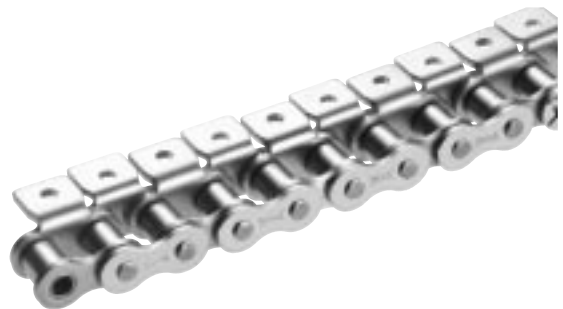
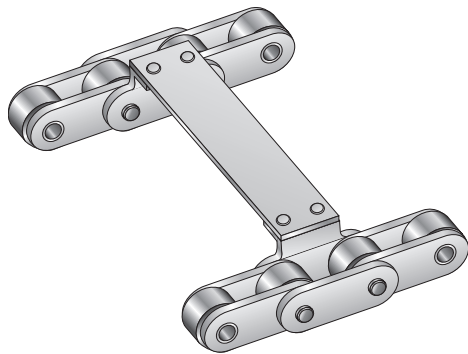

Fig. 16 A-1 Attachment
Fig. 17 A Attachment with Slat
An A attachment is the most commonly used. It has a bent link plate that extends out on one side of the chain, forming an L-shape. It comes with one or two bolt holes, referred to as A-1 or (W)A-2, respectively (Figure 16). The attachment interval can vary (for example, on each chain link, every five links, or two attachments in a series with intervals every four links, etc.). Generally two strands of chain are used in parallel with slats (Figure 17).